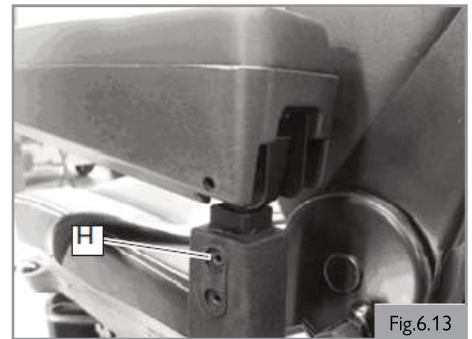

Fig.6.13
1. Using a 4mm Hex key, loosen the two M5 set screws (H) located on the armrest receiver. (Fig. 6.13)